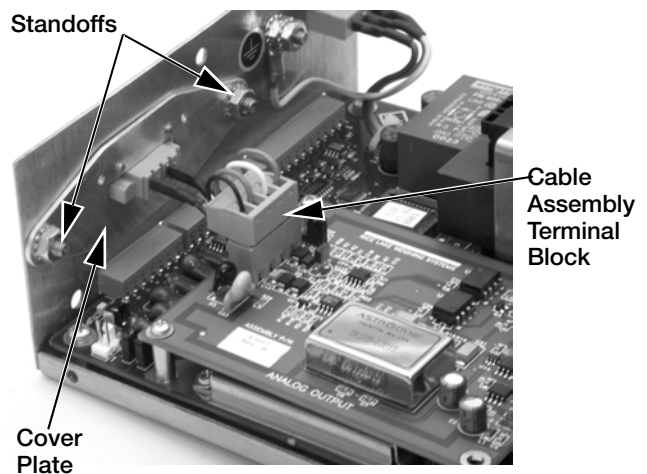

Figure 3. Analog Output Cable Assembly
6. Remove existing cover plate from the back of the enclosure (see Figure 3).